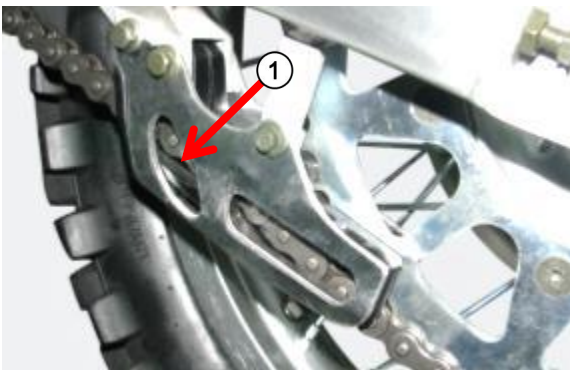

Fig. 2
1. Check the guide slider **1** for wear Fig 2.